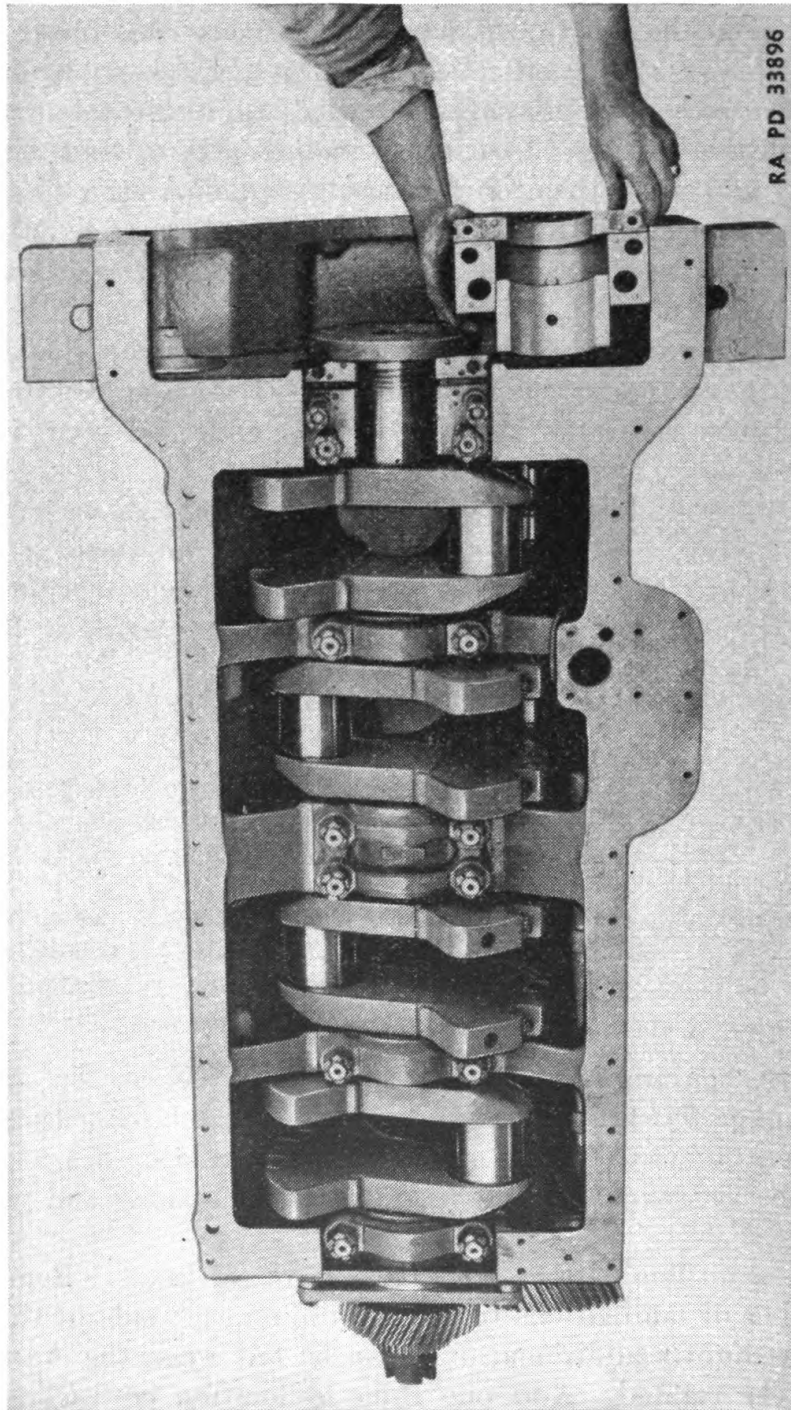

FIGURE 34.—Replacing bearing shell.
(3) (a) Remove crankshaft, old bearings, and oil filter base, and flush all oil passages in the engine thoroughly. It is important that the bearing shells (fig. 34), the bearing bores in the block, and the caps be cleaned of all foreign material or burrs. Do not apply oil to the crankshaft or bearings until after the shells have been pressed into place.